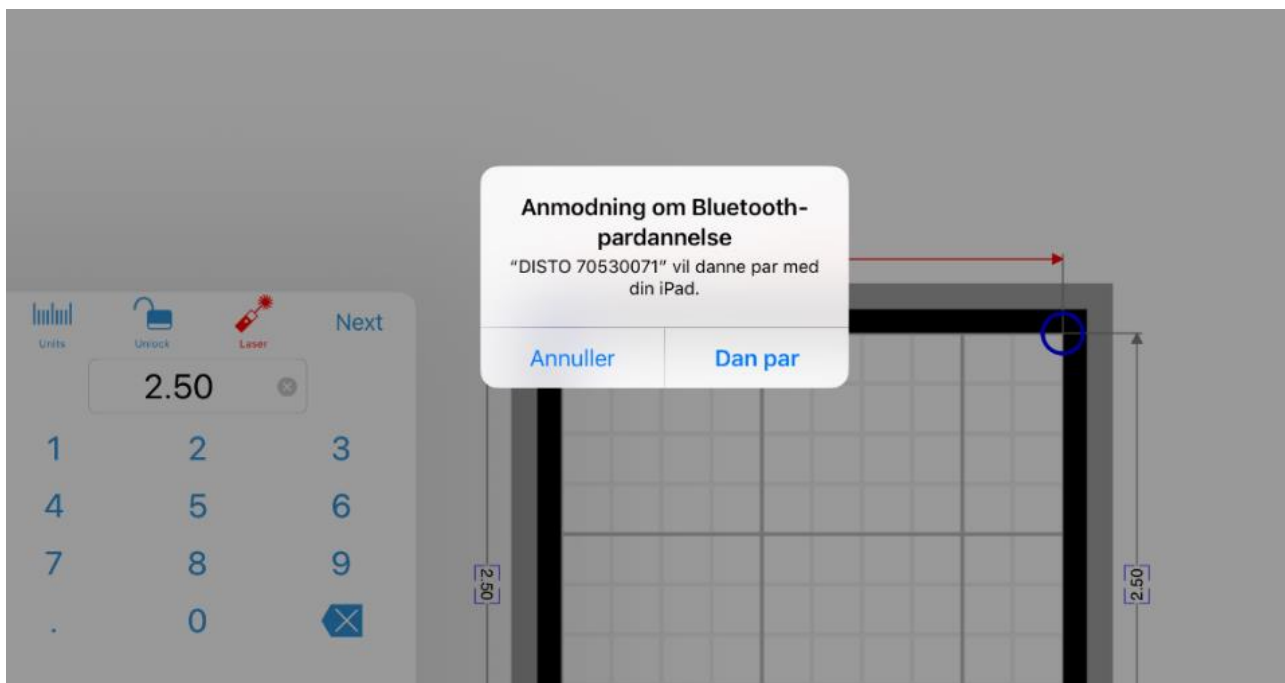

Figure 2.1 Bluetooth pairing
- 8) Pair laser with Magicplan is shown in figure 2.1.